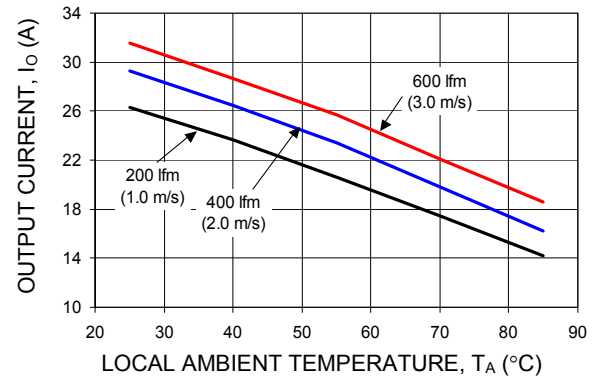

Figure 14. Output Current Derating for the QBK033A0B in the Transverse Orientation; Airflow Direction from $V_{in}(+)$ to $V_{in}(-)$; $V_{in} = 48$ V.
The use of Figures 14 - 15 are shown in the following example:
Determine required airflow (V) (Use Figure 14):